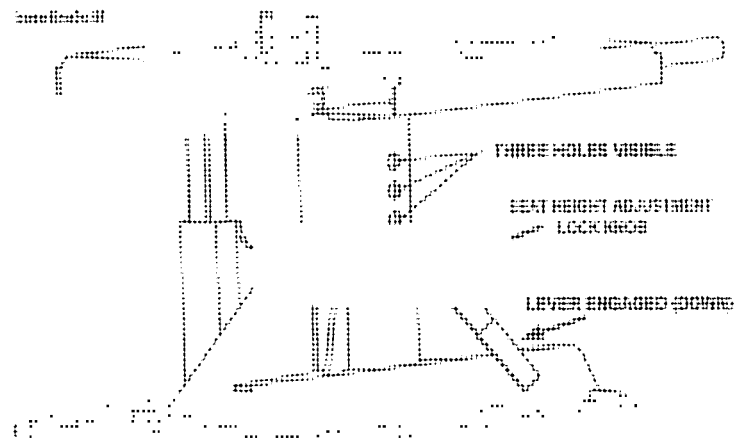

FIGURE 27.
1. Loosen the seat height adjustment lock knob enough to allow seat height adjustment. See FIGURE 27. If continuing from Repair Procedure 2 and 3, this step should already be complete.